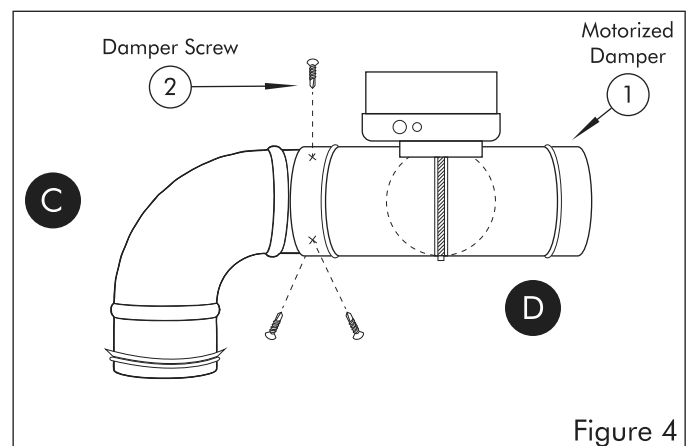

Figure 4
7. Mount motorized damper (1) to 90° elbow using provided damper screws (2) (see figure 4).